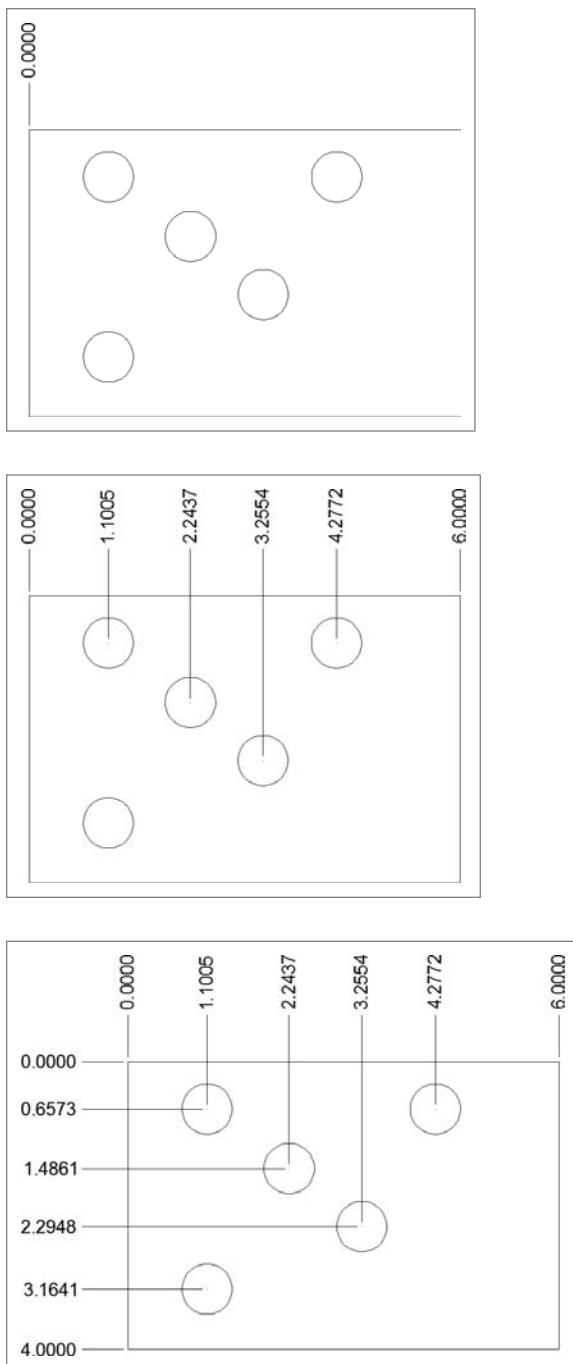

FIGURE 12.41 Placing the first ordinate dimension (top), finishing up the x-coordinate dimensions (middle), and placing the y-coordinate dimensions (bottom)
6. Using Polar Tracking or Ortho mode, copy that circle once directly to the right, once directly below the original, and to two other locations that are not aligned with any other circle, so the configuration looks something like the top of Figure 12.41.
This sets the first ordinate dimension (see the top of Figure 12.41).
The lower circle is in vertical alignment with the one above it, so it needs no horizontal dimension. Place an ordinate dimension on the upper-right corner of the plate to finish. Press the F8 key to toggle Ortho mode off if you need to jog an extension line. The result should look like the middle image of Figure 12.41.
11. Repeat this procedure for the y-ordinate dimensions. Once again, ignore any circles that are in vertical alignment, but include the upper-left and lower-left corners of the plate (see the bottom of Figure 12.41).